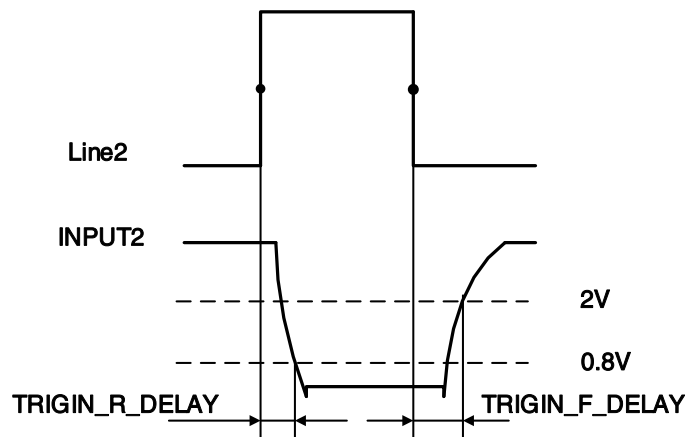

Figure 7-19 Parameter of Line2 input circuit
- Input rising time delay: $<2\mu\text{s}$ ($0^\circ\text{C}\sim 45^\circ\text{C}$), parameter description as shown in Figure 7-19
- Input falling time delay: $<2\mu\text{s}$ ($0^\circ\text{C}\sim 45^\circ\text{C}$), parameter description as shown in Figure 7-19